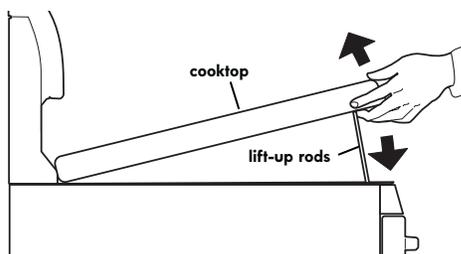

Figure 20: Raising and lowering the cooktop
2. Grasp the sides of the cooktop and then lift from the front (See Figure 20).